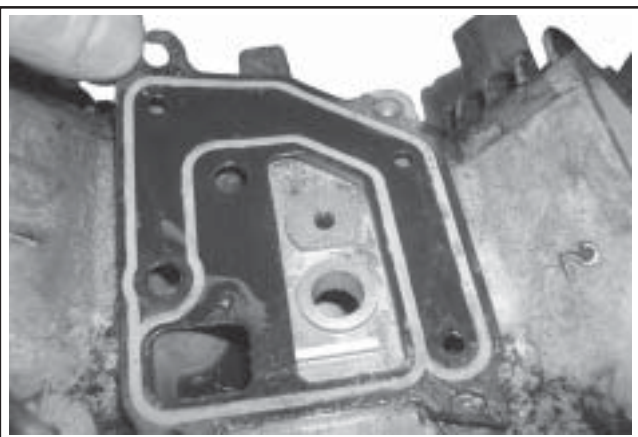

Figure 9-36. Removing Breather Cover Gasket.
5. Remove the breather cover and gasket (if used). See Figure 9-36.